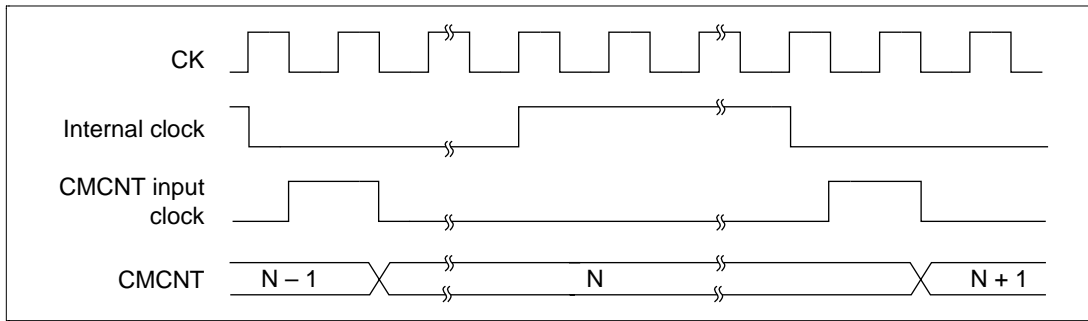

Figure 17.3 Count Timing
One of four clocks ($\phi/8$, $\phi/32$, $\phi/128$, $\phi/512$) obtained by dividing the system clock (CK) can be selected by the CKS1–CKS0 bits of the CMCSR. Figure 17.3 shows the timing.